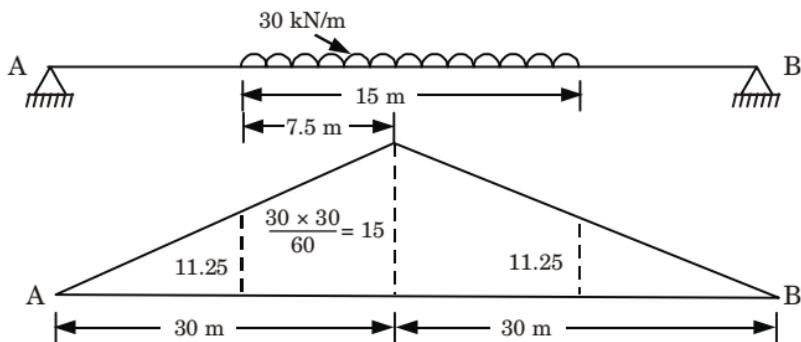

Fig. 25.
- ILD for absolute value of maximum bending moment, as shown in Fig. 25.